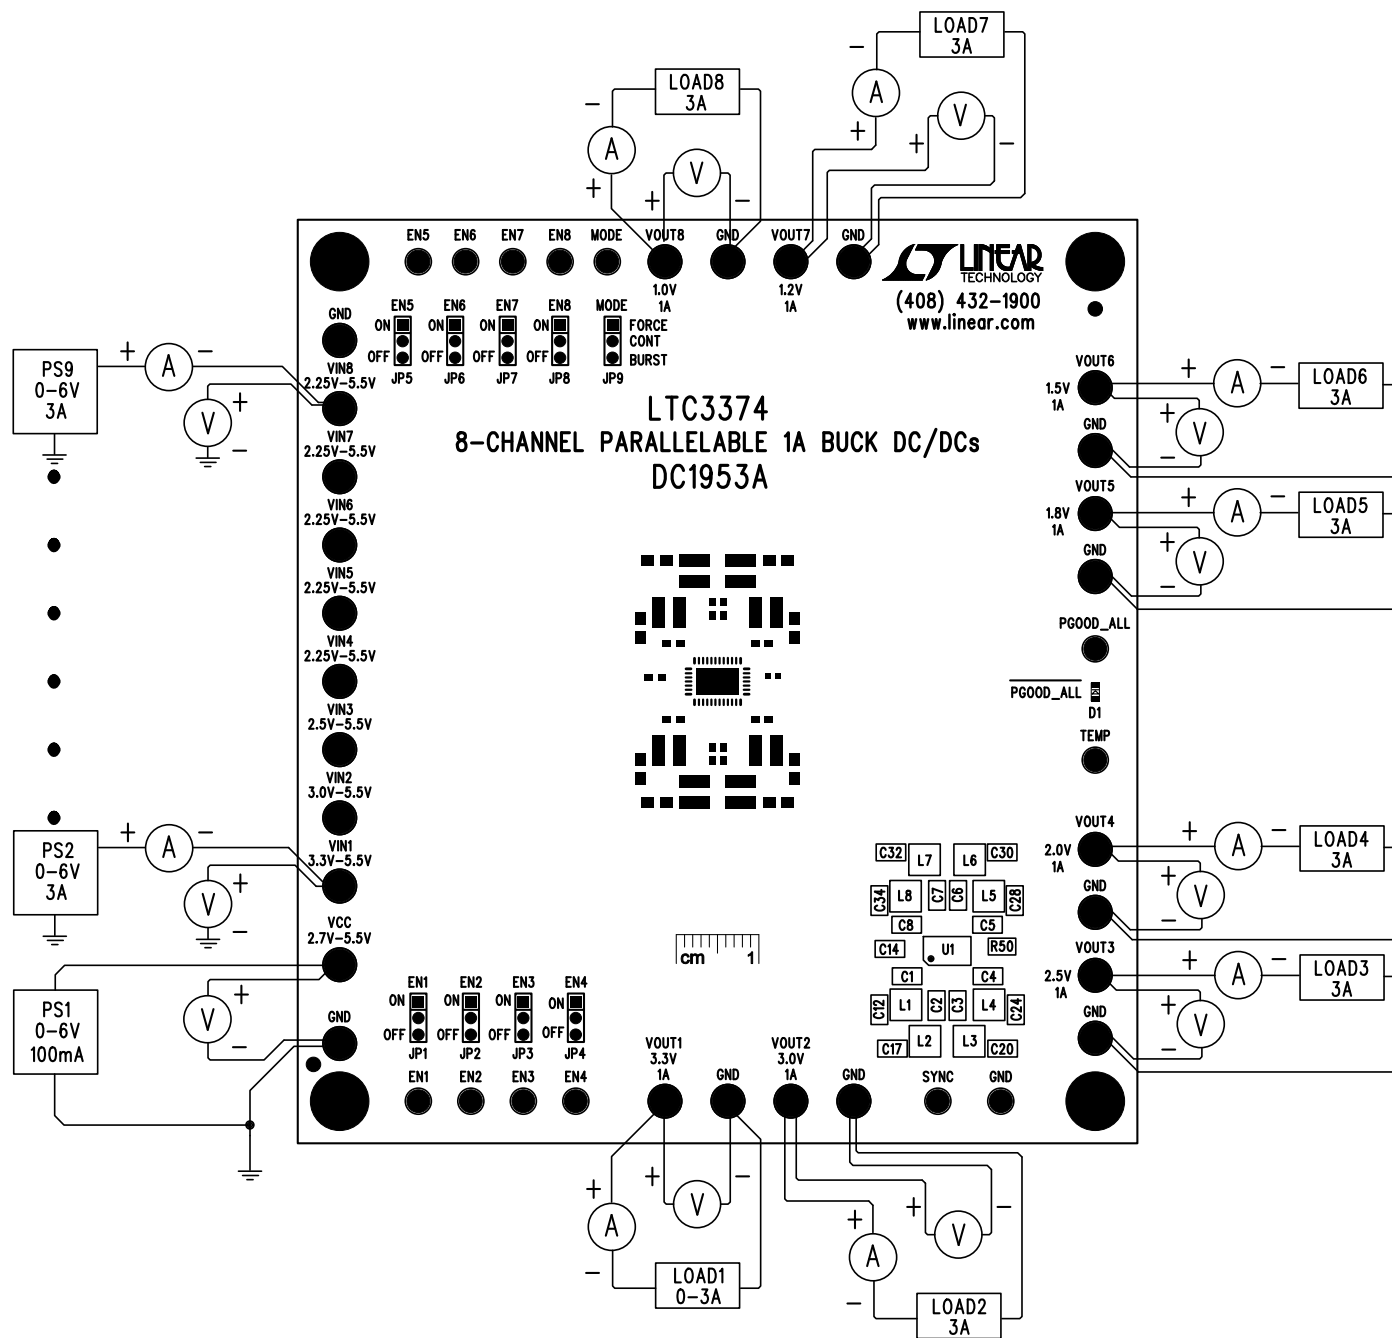
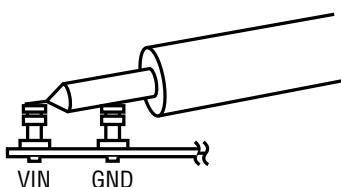

Figure 1. Proper Measurement Equipment Setup
Figure 2. Measuring Input or Output Ripple
The DC1953A is easy to set up to evaluate the performance of the LTC3374. Refer to Figure 1 and Figure 2 for proper measurement equipment setup and follow the evaluation procedure below.
**Note:** When measuring the input or output voltage ripple, care must be taken to avoid a long ground lead on the oscilloscope probe. Measure the input or output voltage ripple by touching the probe tip directly across the VIN or VOUT and GND terminals. See Figure 2 for proper scope probe technique.
3. With power off, connect a 0V to 6V, 100mA power supply to VCC and GND with a voltmeter as shown in Figure 1.
4. With power off, connect a 0V to 6V, 3A power supply to each VIN and GND with a series ammeter and a voltmeter as shown in Figure 1. A single 0V to 6V, 10A supply can be used instead to supply all VIN inputs simultaneously.
7. With power off, connect a 0V to 3A load to each VOUT and GND with a series ammeter and a voltmeter as shown in Figure 1.
8. Slowly increase LOAD1 from 0A to 1A and observe the output voltage. The output ripple may also be observed using an oscilloscope with the probe connected as shown in Figure 2.